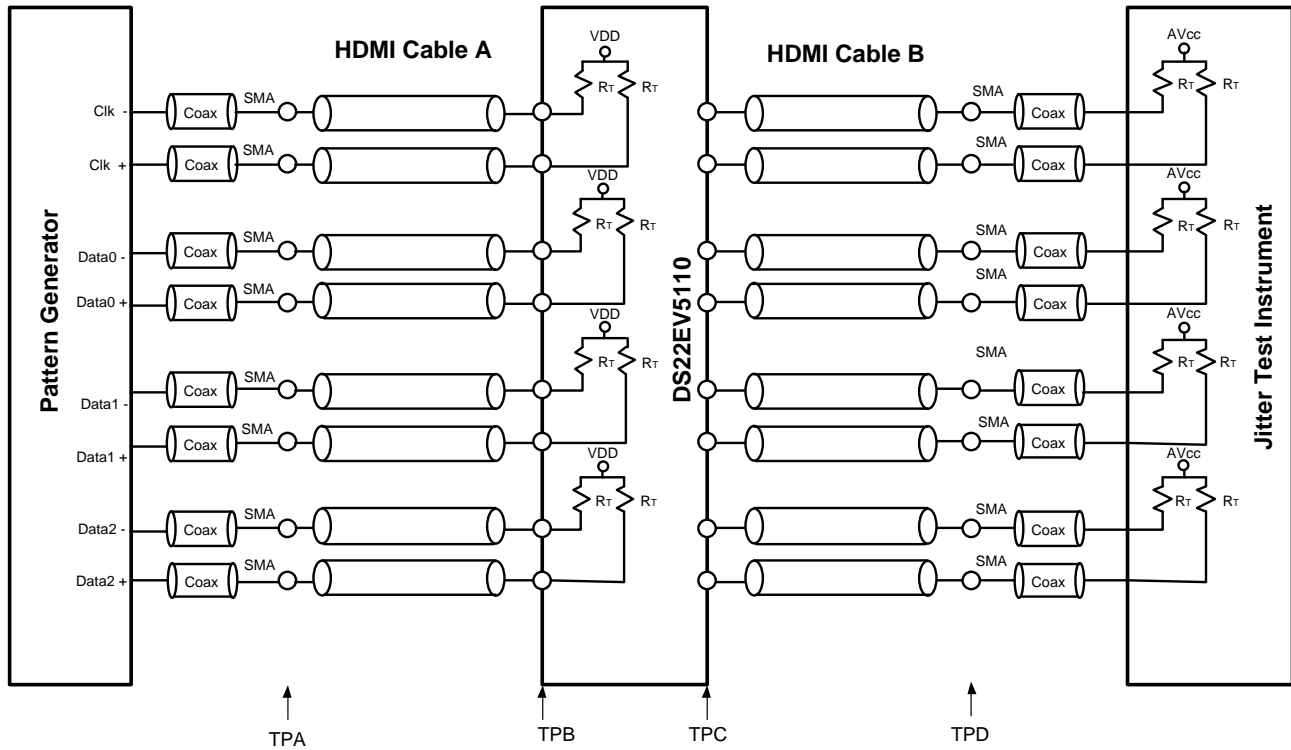

Figure 1. Test Setup Diagram
- (3) Parameter is specified by statistical analysis and/or design.
- (4) Deterministic jitter is measured at the differential outputs (TPC of Figure 1), minus the deterministic jitter before the test channel (TPA of Figure 1). Random jitter is removed through the use of averaging or similar means.
- (5) Total Jitter is defined as peak-to-peak deterministic jitter from + 12 times random jitter (ps).
- (6) Random jitter contributed by the equalizer is defined as  $\text{sq rt}(J_{\text{OUT}}^2 - J_{\text{IN}}^2)$ .  $J_{\text{OUT}}$  is the random jitter at equalizer outputs in ps-rms, see TPC of Figure 1;  $J_{\text{IN}}$  is the random jitter at the input of the equalizer in ps-rms, see TPA of Figure 1.